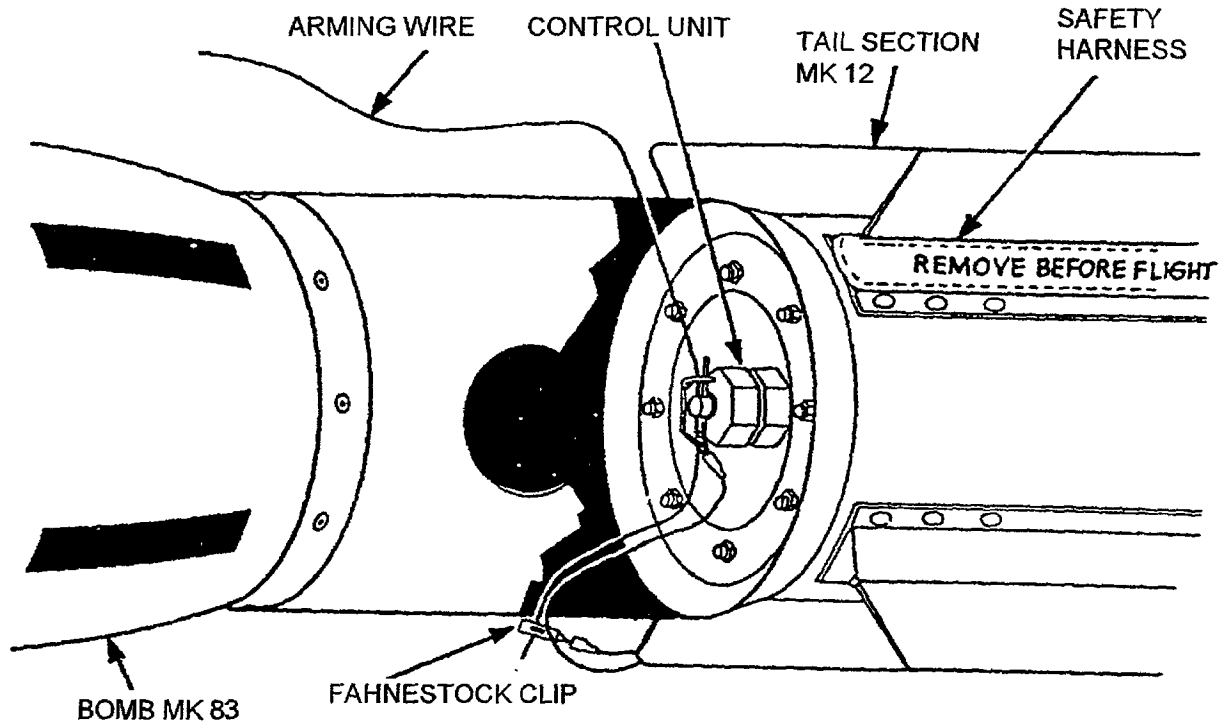
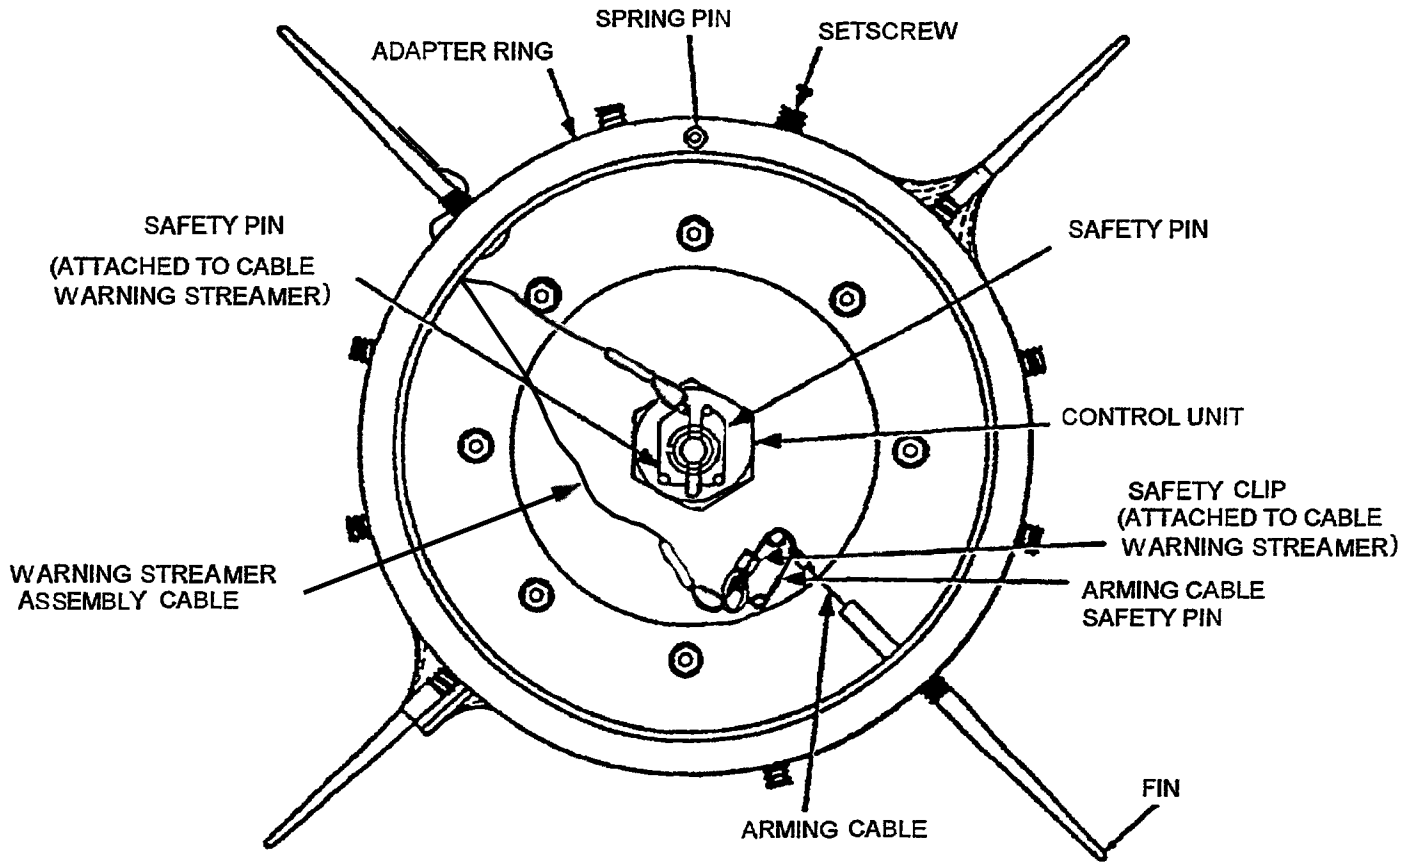

Figure 5-5B. Arming Wire Removal
Figure 5-5C. Tail Section Mk 12
- i. Remove the Fahnestock clip, attached to warning streamer or safety harness, from arming wire where it exits tail section directly below control unit (Figure 5-5B).
- j. Verify safety pin is installed in control unit, then withdraw arming wire from control unit (Figure 5-5B). Install second safety pin in vacant hole of control unit as shown in Figure 5-5C.